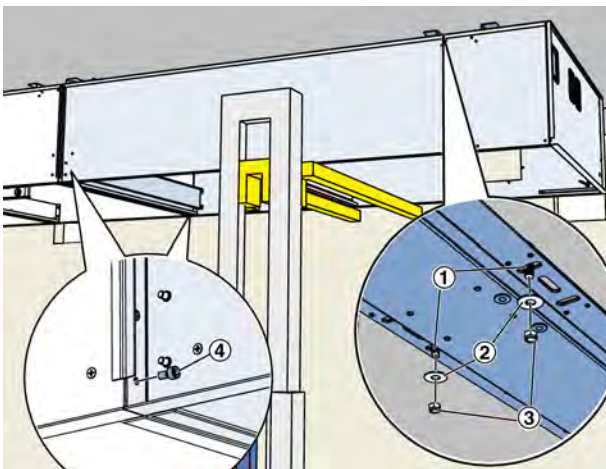

Fig. 33: Position component 2 next to component 1
Move door frame component 2 back to the assembly position with the lift and fasten it to the threaded rods (Fig. 33 /1) with body washers (Fig. 33 /2) and self-locking nuts (Fig. 33 /3) so that it can still be moved somewhat.
7. ▶ Align both door frame components and connect them with six M5x10 screws (Fig. 33 /1).